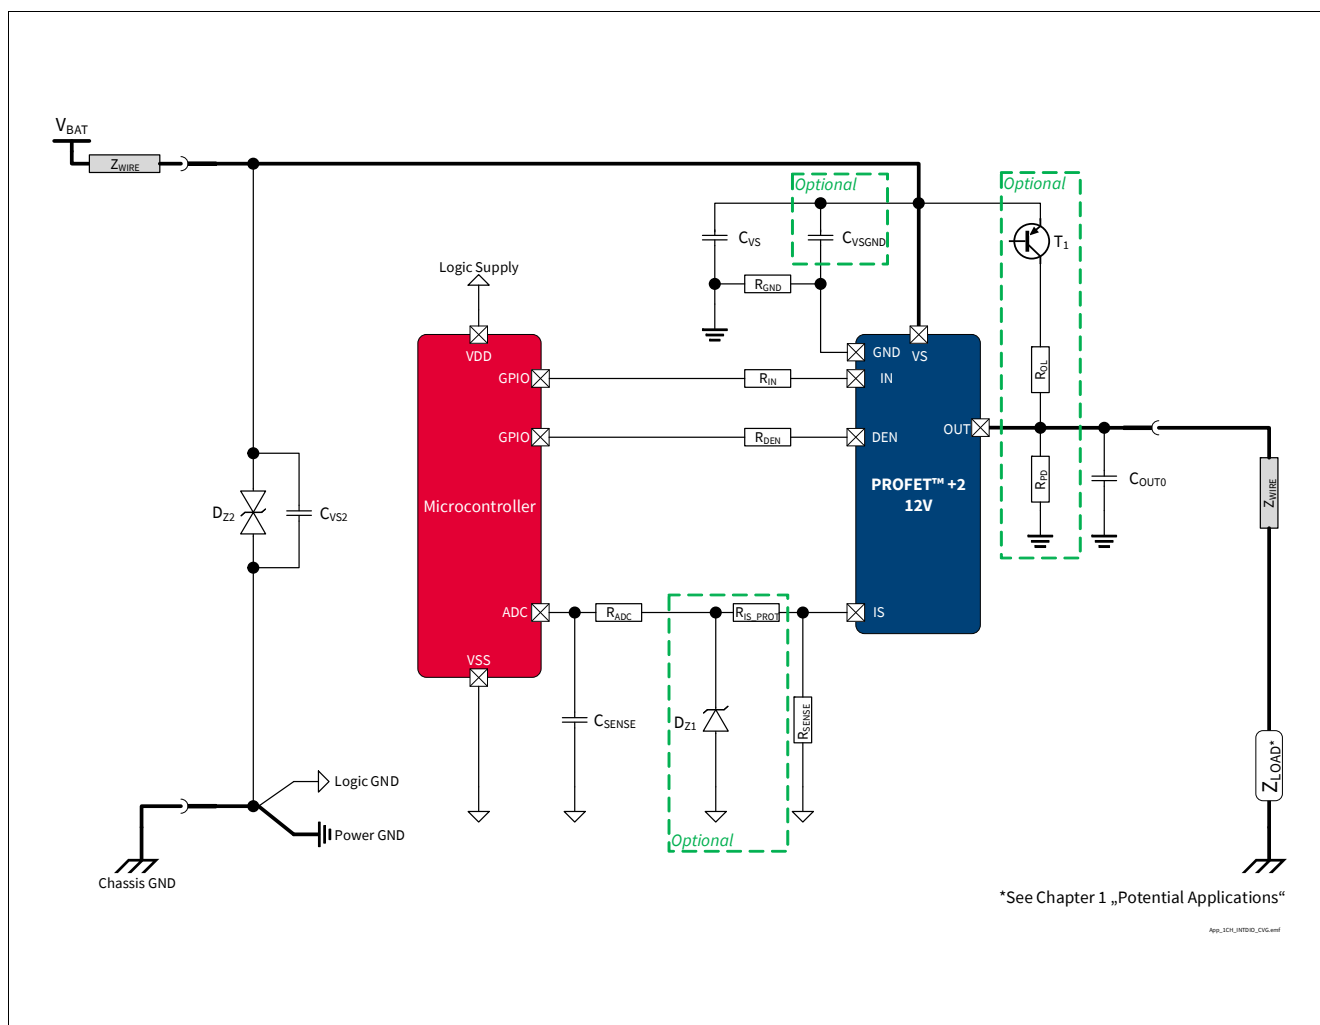

Figure 42 BTS7008-1EPA Application Diagram
1.02 , 2019-10-15	P_8.7.1.1, P_8.7.1.7, P_8.7.1.8 updated (Note or Test Condition: added link to Figure 25) P_7.5.1.4, P_7.5.1.5 updated (added in Note or Test Condition: DEN = “low”) P_7.5.1.12 updated (deleted unnecessary space in Symbol: $dV_{OUT} / dt \rightarrow dV_{OUT} / dt$) P_9.7.1.6 updated (Min./Typ./Max.: -50%/5500/+50% → -35.0%/5400/+35.0%) P_9.7.1.9 updated (Min./Typ./Max.: -42%/5500/+42% → -30.0%/ 5400/+30.0%) P_9.7.1.12 updated (Min./Typ./Max.: -40%/5500/+40% → -29.5%/5400/+29.5%) P_9.7.1.15 updated (Min./Typ./Max.: -25%/5500/+25% → -13.5%/5400/+13.5%) P_9.7.1.18 updated (Min./Typ./Max.: -8%/5500/+8% → -5.8%/5400/+5.8%) P_9.7.1.20 updated (Min./Typ./Max.: -6%/5500/+6% → -4.0%/ 5450/+4.0%) P_9.7.1.22 updated (Min./Typ./Max.: -5%/5500/+5% → -3.9%/5450/+3.9%) P_4.2.1.6 updated (Max.: 16 mJ → 20 mJ) Figure 1, Figure 42 updated Chapter 1 updated (or LED equivalent → or equivalent electronic loads (e.g. LED modules)) P_4.3.0.7 added Table 23 updated Chapter 5.1 updated (added: see Chapter 10 for the complete application setup overview)